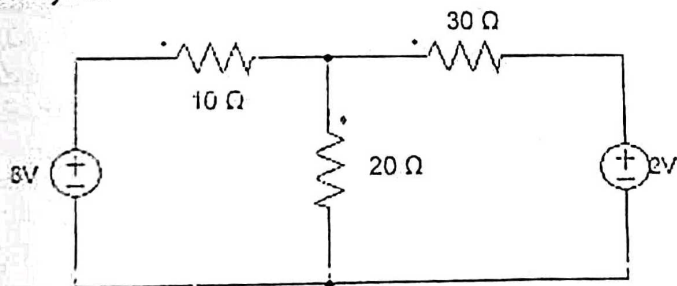

Fig. 2(c)
- c) Find the current through 20 Ω in the circuit shown in Fig. 2(c) using nodal analysis.